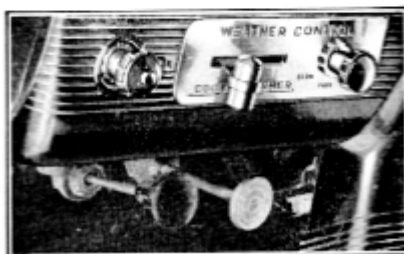

Figure 36
2. Move Temperature-Control lever, Figure 36, to the right to increase heat and to the left to decrease heat.